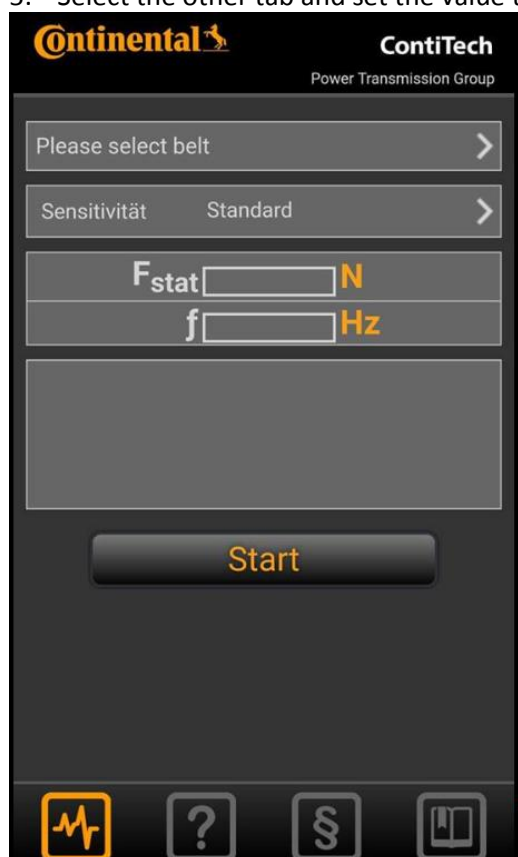

Fig. 37 Tension2Go “Sensitivität” tab
- Select the other tab and set the value to “Standard” (Fig. 37).